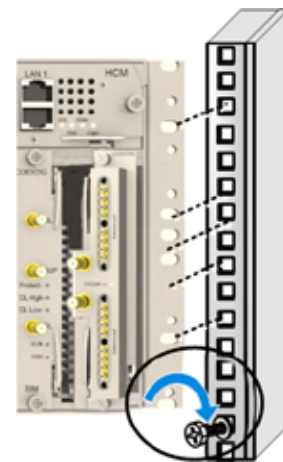

Figure 3. Installing Chassis in Rack
Step 2: Referring to Figure 3, secure the units' rack ears to the rack frame as follows: